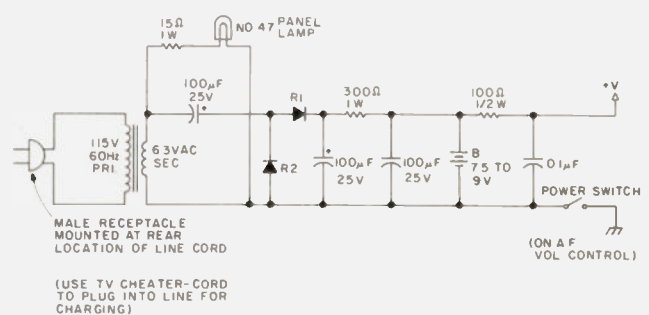

Fig. 2.
3. Unsolder and disconnect power transformer connections (filament supply line and high-voltage rectifier-filter system), and reconnect the power supply components as shown in Fig. 2, using additional components as needed.